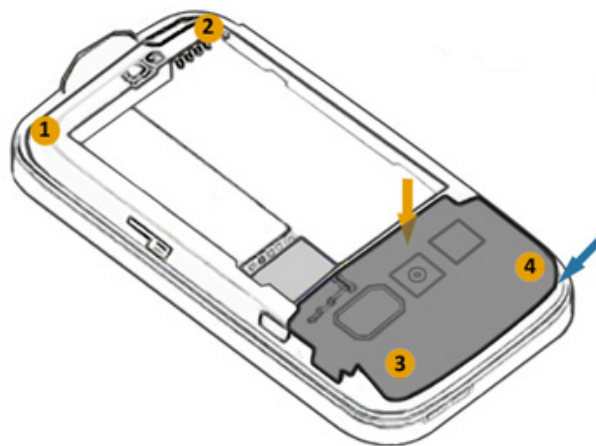

Figure 1
- You will now need to unscrew four T5 screws from the back of the phone. Using a T5 Torx screwdriver, remove these screws at the locations shown in figure 1.
- Using safe open pry tool, carefully lift up the rear top cover / antenna module (highlighted using dark gray color in figure 1) from the side indicated by blue arrow. But note that you will need to remove a cable connector from underneath (indicated by orange arrow in figure 1) before you can be able to completely separate the antenna module from the unit. Release the connector using safe open pry tool when you have lifted the antenna module enough to access the connector. Now the antenna module will be separated.